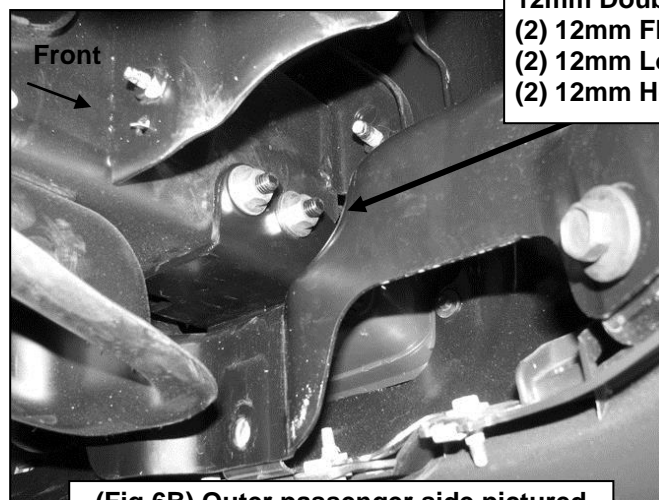

**Fig 5**
2. Locate the holes in the end of the frame channel, **(Figure 4)**. Select (1) Frame Bracket, **(Figure 5)**. Insert the Bracket through the opening in the bumper. Line up the (3) holes in the Bracket with the holes in the side of the frame.